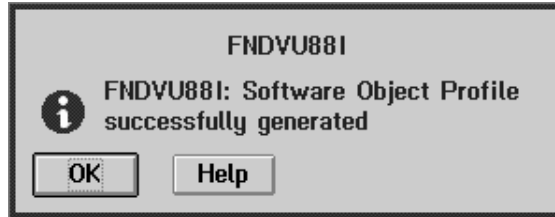

Figure 124. Successful profile creation message
- 6 Then an informational message is displayed, as shown in Figure 124.